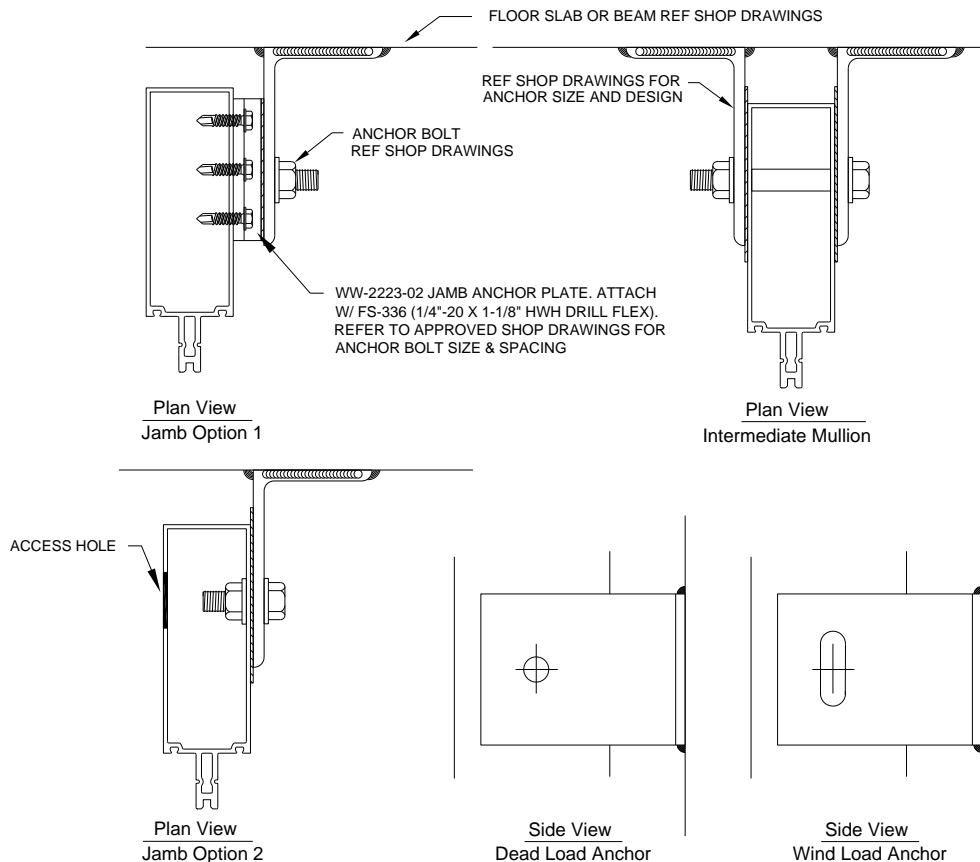

Figure 12: Face of Slab Anchoring Details
- 8.4 Anchor the mullion to floor slab or beam. See *Figure 12* Do not over tighten bolt(s). For expansion anchors, back off nut 1/4 turn and stake bolt.
- 9.4 Anchor the mullion to floor slab or beam. See *Figure 12*. Do not over tighten bolt(s).